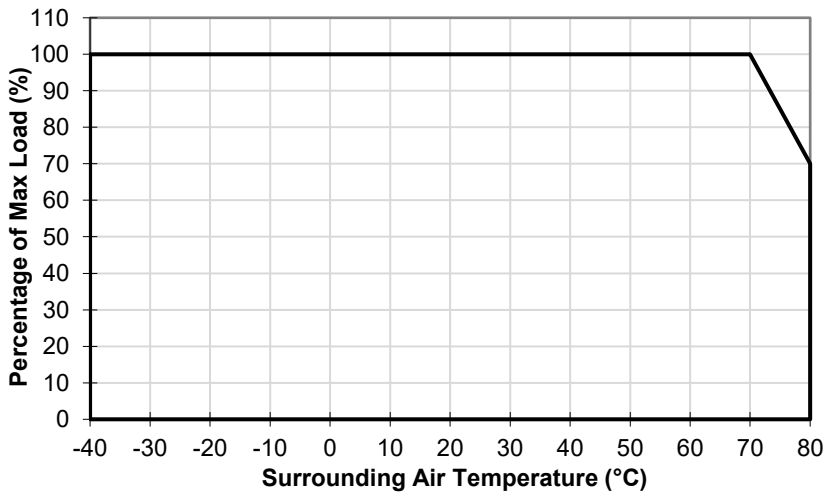

Fig. 1 De-rating for Vertical and Horizontal Mounting Orientation
1. The unit may degrade, or be damaged, when it is continuously used outside the shaded region, refer to the graph shown in Fig. 1.